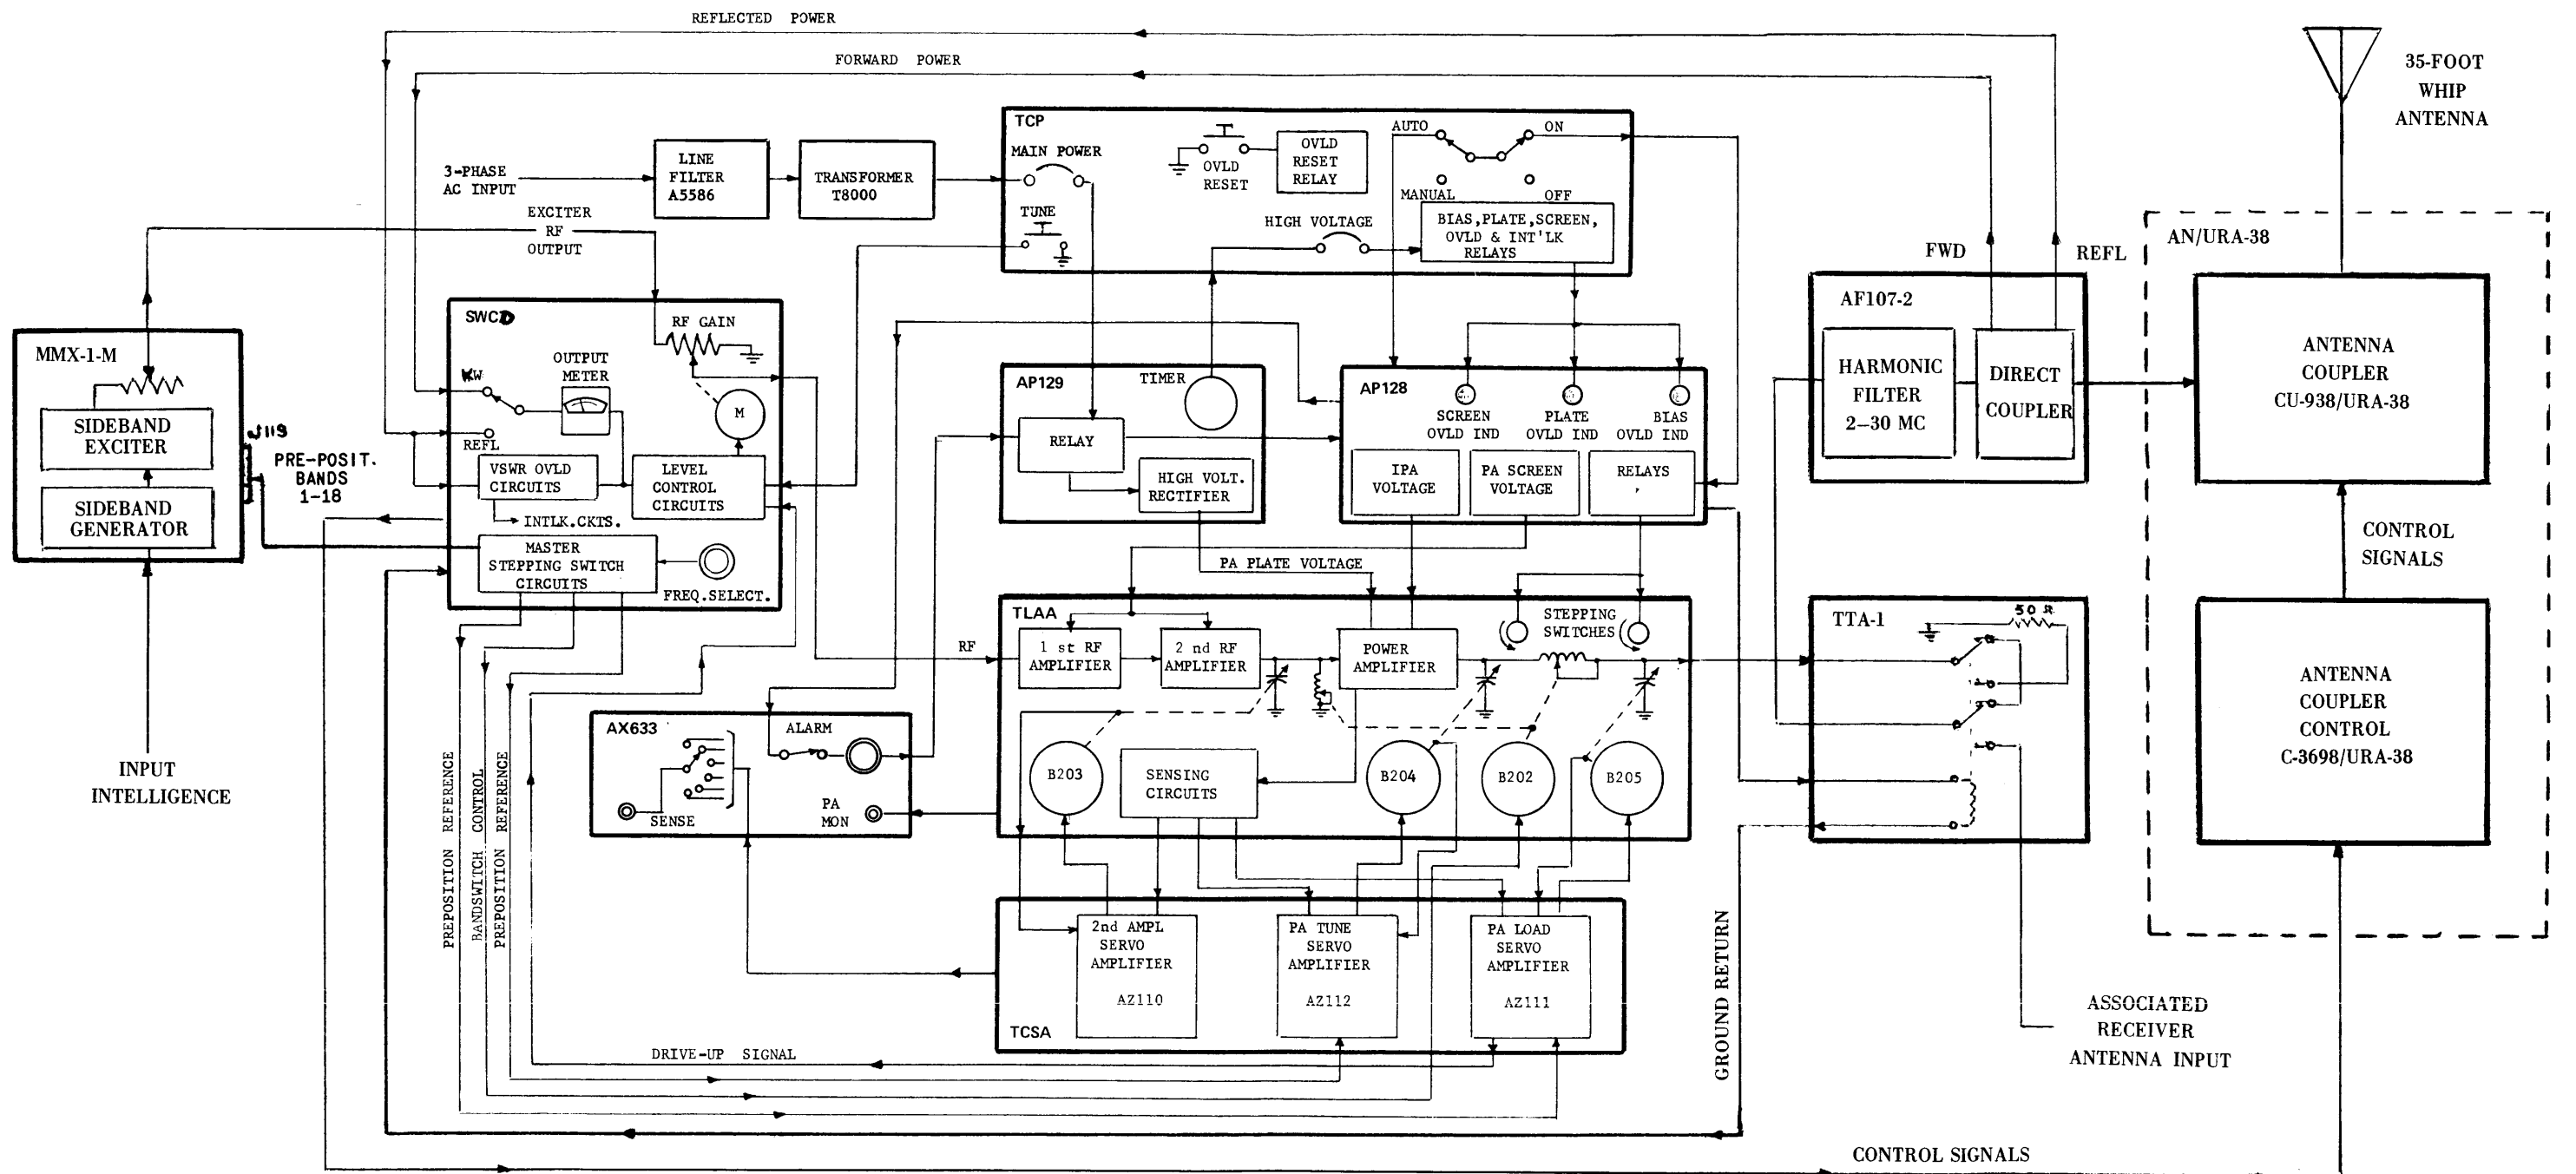

Figure 4-1. Simplified Block Diagram
2. system block diagram (Section 4) (Figure 4-1)